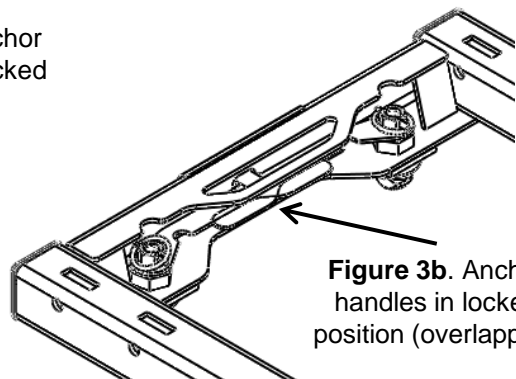
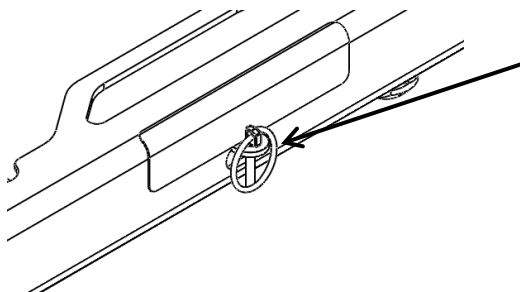

Figure 3b. Anchor handles in locked position (overlapped)
Figure 3c. Locking hole tabs in handles overlap and protrude through base arch, with lynch pins in locked position.
3. Rotate (4) handles into locked position (with locking hole tabs through base arch (Fig 3c) and overlapped on each side (Figure 3b).
5. Place lynch pins / locks through the overlapping handle holes on each side to anchor hitch into pucks (Figure 3c).
1. Remove lynch pin / lock from the overlapping handle holes on each side of the adapter (Figure 3c). Store lynch pins.